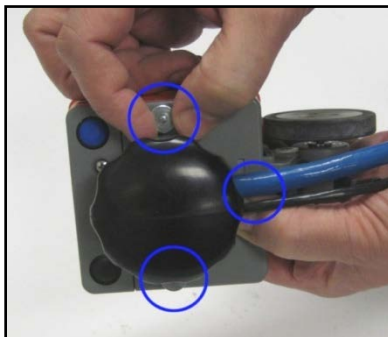

Figure 2: Remove thumb screws.
- 1** Remove the three thumb screws (blue enclosures in Figure 2) securing the survey wheel attachment plate.